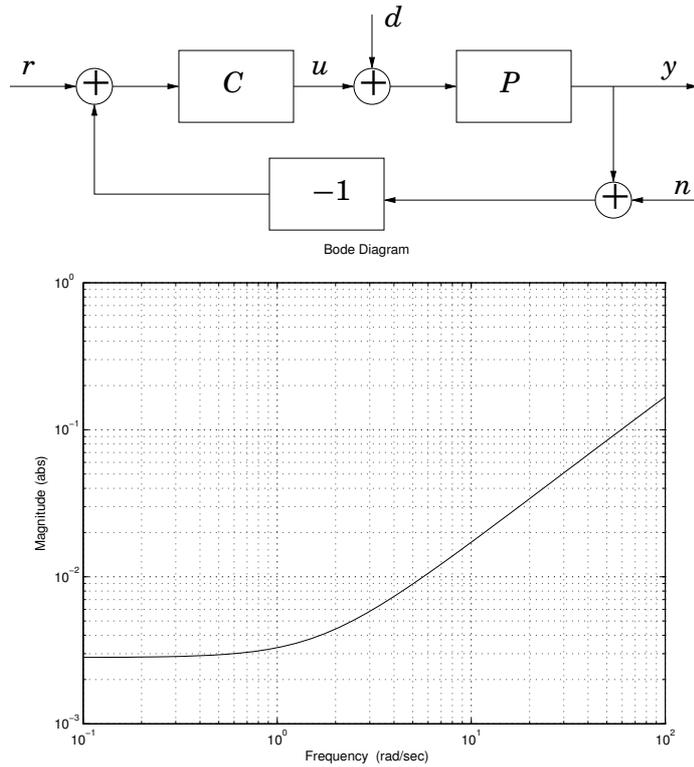

Figure 3 Block diagram and sensitivity function in Problem 4
4. Consider the block diagram in Figure 3. The process P is given by
Your colleague claims to have solved the problem and presents you the sensitivity function in Figure 3. Would you implement your colleague's controller? Motivate your answer! (2 p)
Notice that P has a zero in 3. This zero constitutes a limitation on the achievable bandwidth. In particular $|S(i\omega)|$ cannot be small for all frequencies $\omega > 3$. The sensitivity function in Figure 3 is small for a very wide frequency range (including 100 rad/s!). This means that your colleagues design was not subject to this limitation. This can only be the case if the unstable pole was canceled by an unstable pole in the controller. But this means that $u/n = SC$ has an unstable pole. So the conclusion is: no! you should not implement the controller.